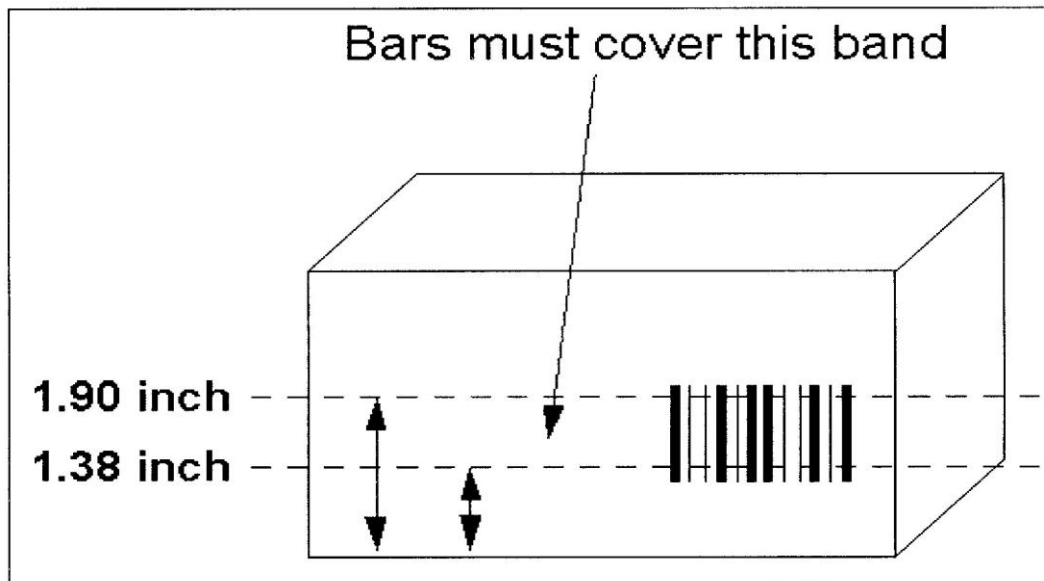

Figure 1
- The bars shall be printed tall enough so that the horizontal band indicated in **Figure 1** will be filled, as a minimum, by the bar code.